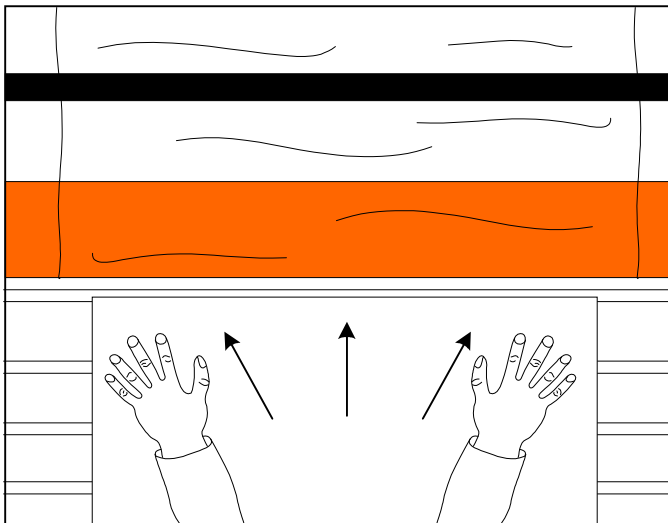

Fig. 29
10. With both hands and an outward force push the image slower than the speed of the rollers into the nip of the heat rollers (Figure 29).